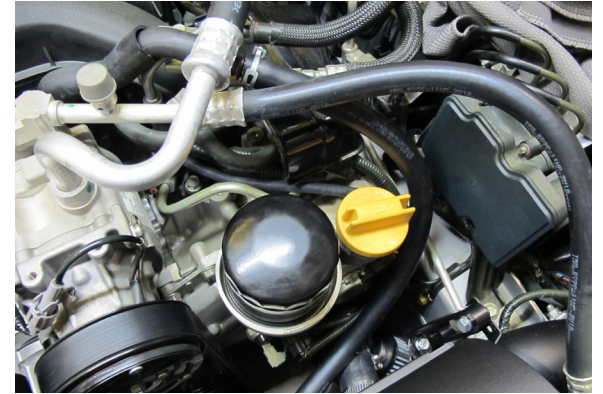

Fig. 10F
- G. Insert the supplied 1/2" hose union into the end of the OEM breather hose. Attached the supplied length of 1/2" breather hose to the 1/2" hose union and route the hose over to the 90° fitting located on the rear of the airbox. Route the hose away from sharp edges and moving objects. Trim hose length if necessary. See Figs. 10F, 10G.